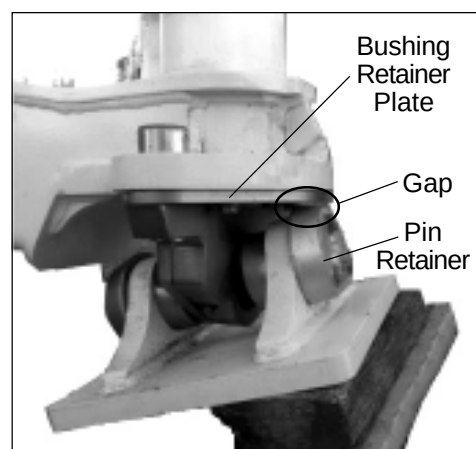
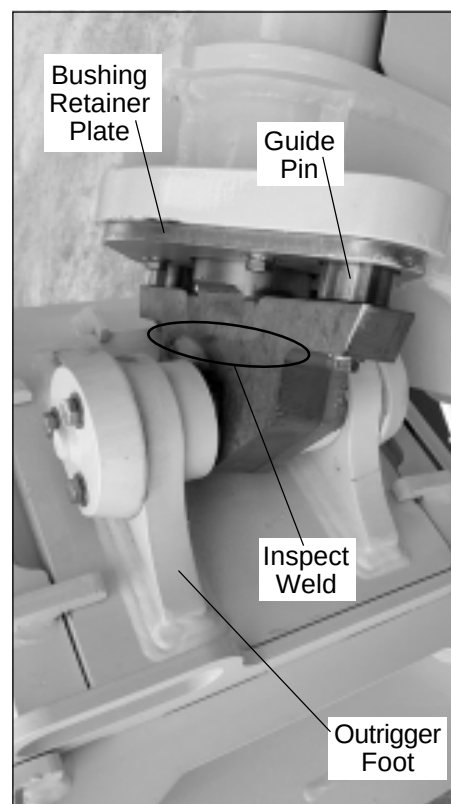

Figure 5 — Outrigger Foot Position
Figure 6 — King Pin Inspection
- A shim may need to be added to the outrigger to prevent the swivel outrigger foot from damaging the pins used to mount the outrigger leg to the frame if the outrigger foot bottoms out at an extreme angle. Engage the unit's hydraulic system and extend each outrigger so the outrigger foot presses at an angle on a wheel chock or other angled surface (refer to Figure 5). Look to see if there is any gap between the outrigger foot pin retainer and the bushing retainer plate. If there is a gap, also look at the end of the outrigger foot kingpin assembly to see if it is bent, if the weld is damaged or cracked, or if the assembly is not even on both guide pins (refer to Figure 6).
If there is a gap between the outrigger foot pin retainer and the bushing retainer plate (refer to Figure 5) order the Outrigger Shim Kit, part number 990415643. The shims must be added to all outriggers if one has a gap. If any of the kingpins are damaged, order the kingpin assembly, part number 970455213.